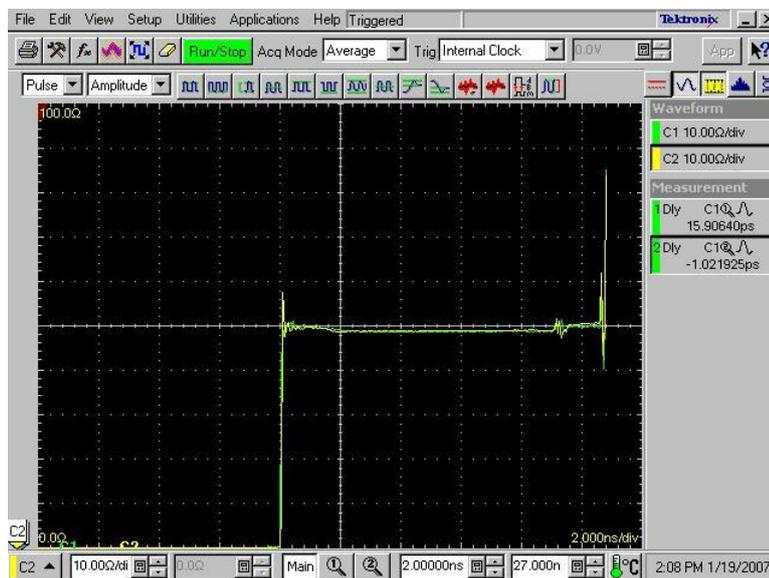

Figure 8 Screen image after turning off the Mag View feature
7. Turn off the Mag View feature (see Figure 8).